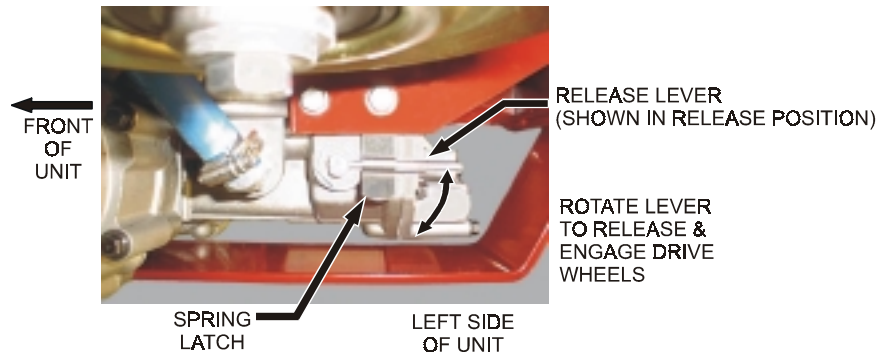

FIG. 3
- 3.6.1 Rotate drive wheel release lever into position shown in Figure 3 to release drive system (Refer to Section 4.11). Roll tractor to cutter deck and cutter deck support aligning them so the tractor is positioned for ease of mounting the deck support.
- 4.11 Drive Wheel Release Lever: Located under the lower left rear corner of the engine deck (See Figure 3). The drive wheel release lever is used to release the hydrostatic drive system to allow machine to be pushed while the engine is not running. Rotate lever 1/8 turn counter-clockwise until caught under spring latch to release drive system. Pull spring latch out far enough to allow lever to rotate 1/8 turn clockwise to engage drive system.